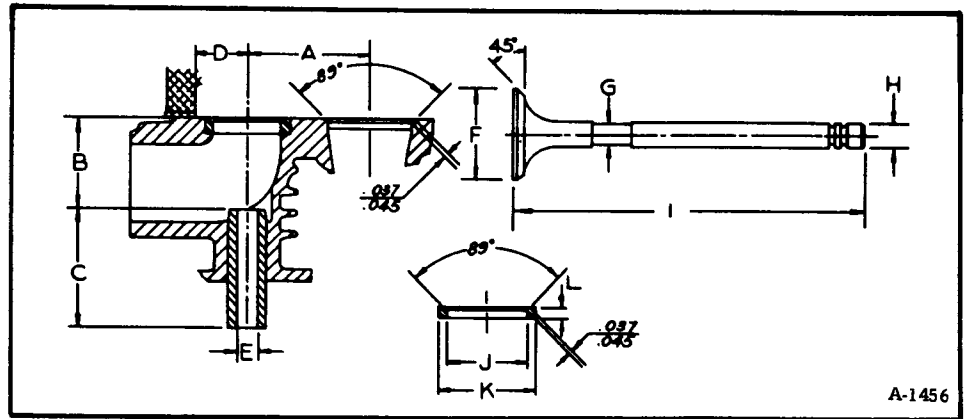

Fig. 137 Valves, Seats and Guides
(6) Valves, Seats and Guides (Fig. 137):